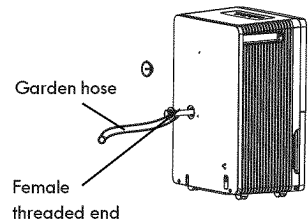

Figure 13
- Remove the continuous drain hose and the drain hose subassembly from the unit. Install the plastic cover to the continuous drain hose outlet of the unit by using two screws.(See Fig.13)